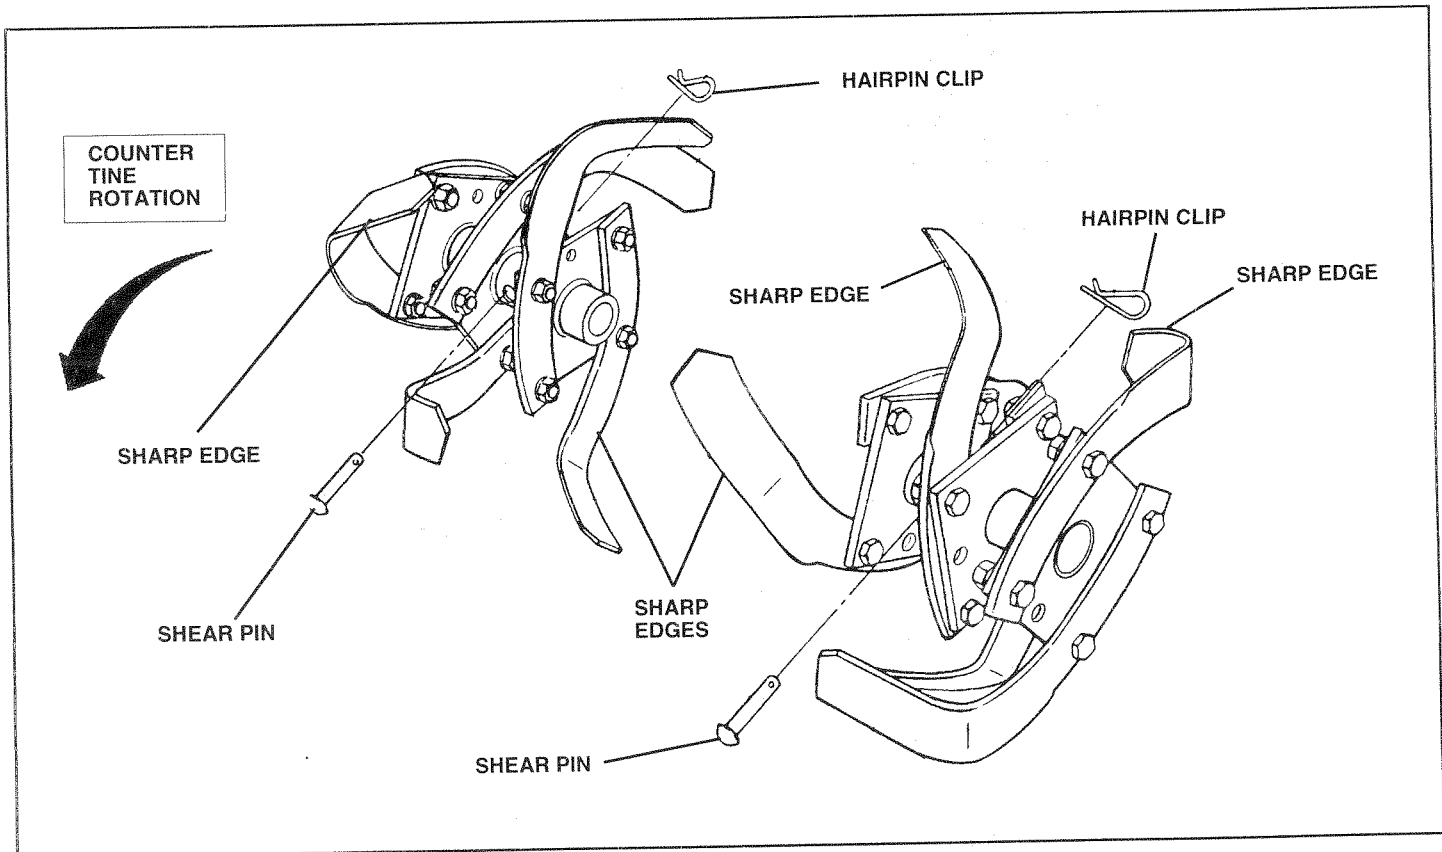

FIG. 26
- New tines should be assembled as shown in Fig. 26. Sharpened tine edges will rotate rearward from above.